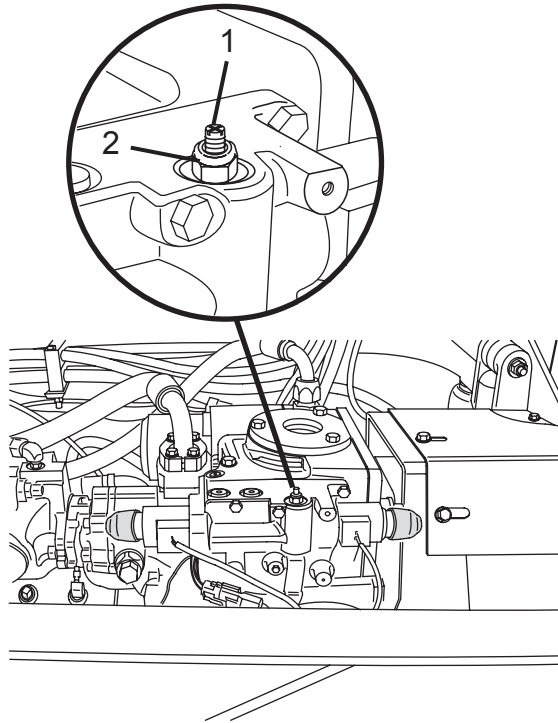

Figure 33
In the event of an electrical failure, the pump neutral adjustment screw (Figure 33, Item 1) can be adjusted to temporarily “lock” the drum in the CHARGE position to allow the truck to be driven to the shop for repair.
2. Loosen the adjustment eccentric screw lock nut (Figure 33, Item 2) using a 9/16” wrench.
3. Using a screwdriver, rotate the pump neutral adjustment eccentric screw (Figure 33, Item 1) until the drum is rotating at approximately 1 to 1-1/2 RPM in the CHARGE direction.
4. Hold the pump neutral adjustment eccentric screw (Figure 33, Item 1), while tightening the lock nut (Figure 33, Item 2) with the 9/16” wrench.
7. Call Revolution Service at (855) 202-6491 if you have questions or need help.